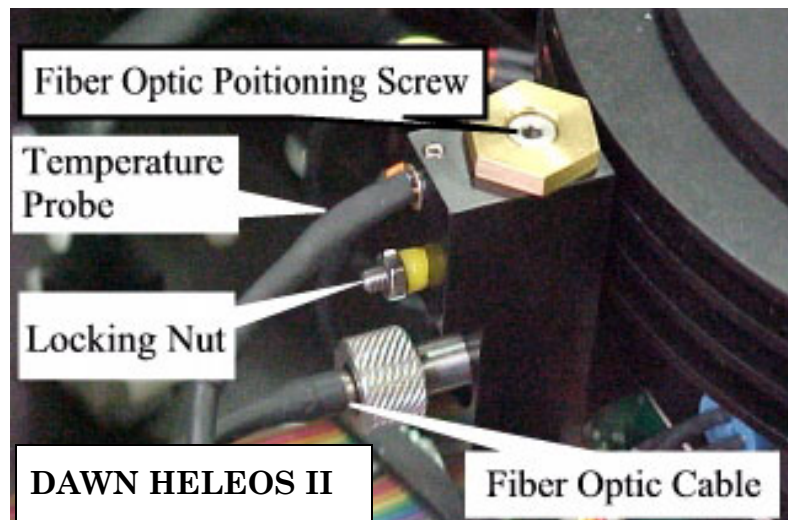

Figure A-3: Adjusting the fiber positioner for the DAWN HELEOS II QELS
5. Using a 2.0 mm hex driver, rotate the adjustment screw on the top of the QELS fiber mount (see Figure A-3). This drives the fiber up and down so that its field of view sweeps past the laser beam. The fiber is positioned correctly when the count rate is maximized. This is accomplished by rotating the fiber counter-clockwise until the fiber is at the top of the mount. Stop when the adjuster screw is about 3mm above the top of the mount. If turned too far, the adjuster screw will come out. If this happens, simply screw it back into place, taking care not to cross the threads.